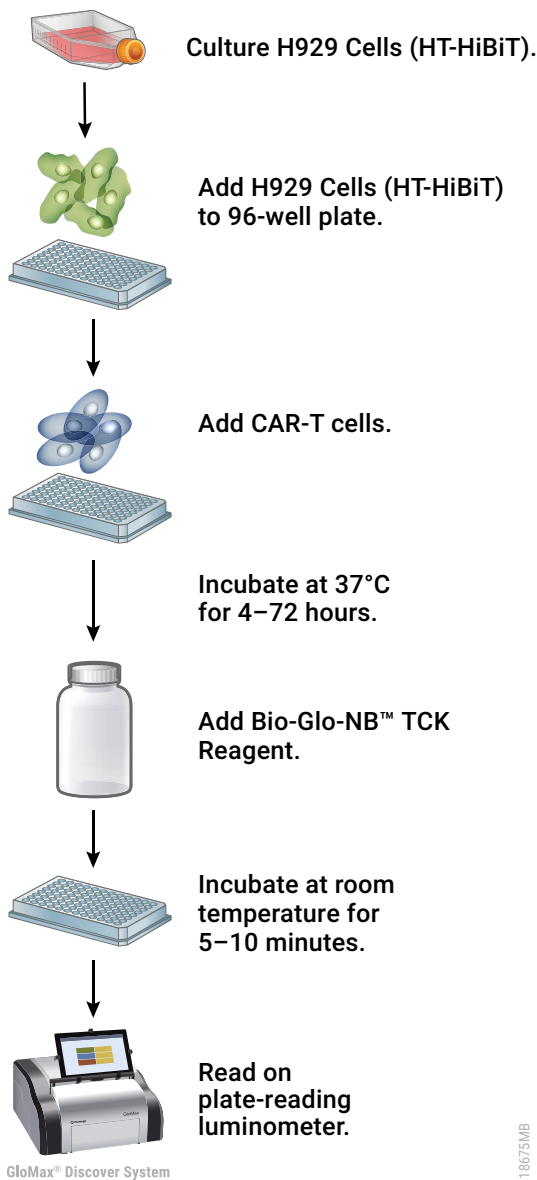

Figure 12. Schematic protocol using the H929 (HiBiT) TCK Bioassay with CAR-T cells.
This procedure illustrates the use of H929 Cells (HT-HiBiT) to test CAR-T effector cells against a reference sample in a single cytotoxicity assay (Figure 12). Each test and reference CAR-T is assayed in triplicate, in an eight-point effector-to-target (E:T) ratio dilution series, in a single 96-well assay plate using the inner 60 wells. Other experimental and plate layouts are possible but may require further optimization.
3. Using a multichannel pipette, add 40µl of the appropriate CAR-T dilution to wells B3–G10 of the assay plates according to the plate layout in Figure 12. Add 40µl of CAR-T assay buffer to MR and SR control wells (B2–G2 and B11–G11, respectively).